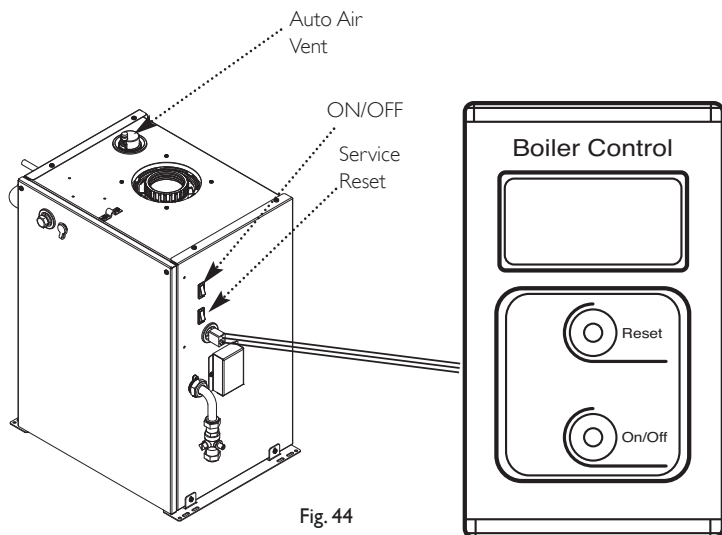

Fig. 44
2. Take the Boiler Control from the firefront packaging and connect it to the boiler (Fig. 44).
IMPORTANT: The heat exchanger air vent on top of the boiler (Fig. 44) **MUST** be opened before filling the primary system.